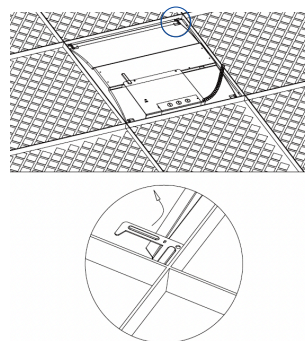

Fig. 6
6. Use the additional T-bar clips for additional safety (Fig. 6)